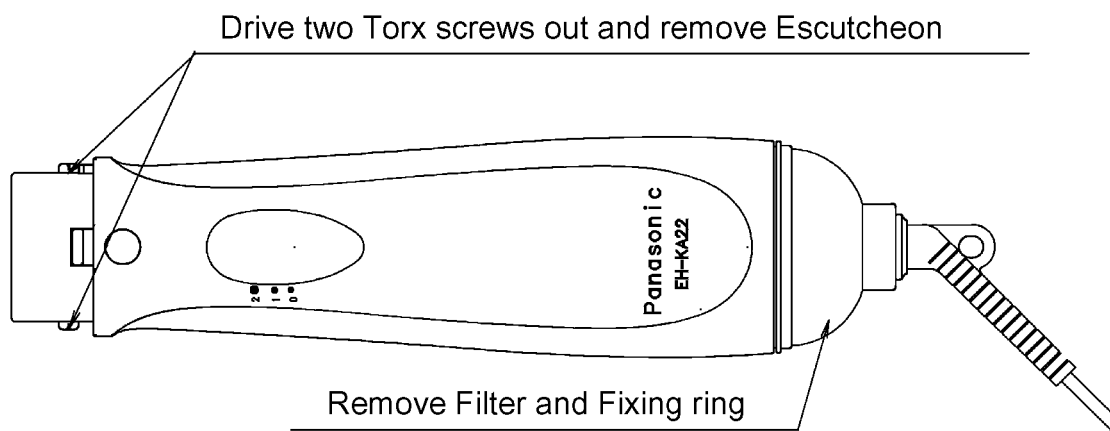

Figure 1
1. Remove the two Torx screws from the Escutcheon, then remove Escutcheon, the Filter and the Fixing ring as show in figure 1.